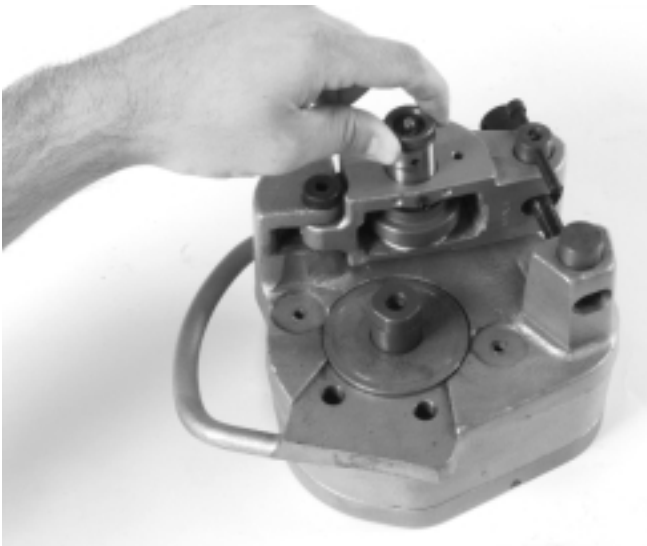

Figure 11 – Inserting Groove Roll Shaft
3. Look through the groove roll shaft hole and align the groove roll and thrust washers with the hole. Insert groove roll shaft (*Figure 11*).